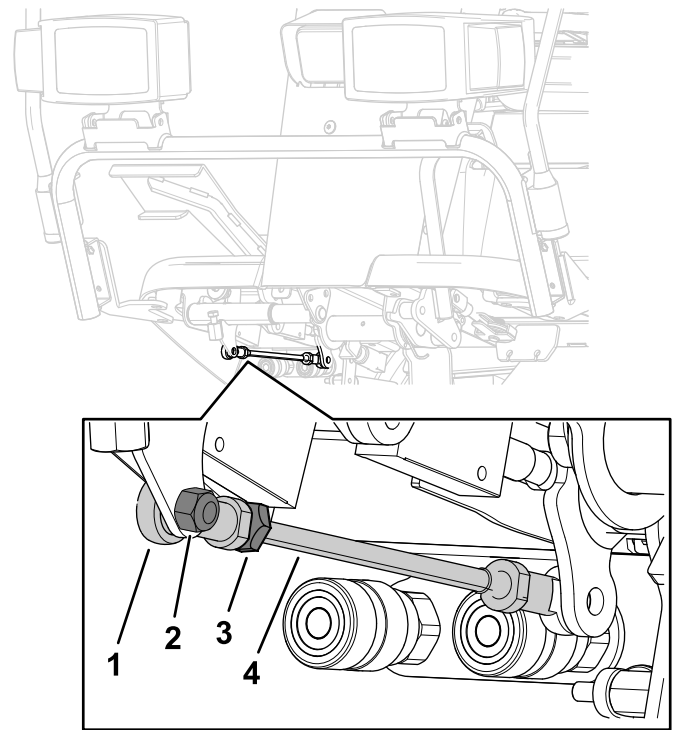

Figure 97
If more adjustment is required, adjust the traction rod (Figure 97) as follows:
5. Loosen the jam nut securing rod end to the traction rod (Figure 97).
7. Tighten the jam nut (Figure 97) and secure the rod end to the traction pedal with the bolt and nut removed to lock the angle of the foot pedal.